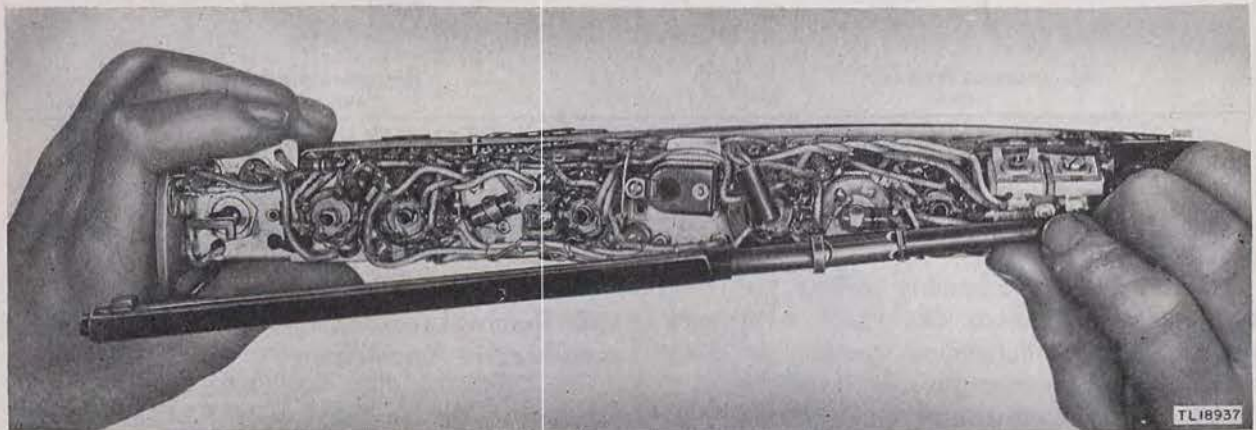

Figure 45. Antenna and antenna guide removal, Radio Receiver and Transmitter BC-611-(\*).
(4) Swing antenna and antenna guide clear of the chassis end plate and remove the antenna and guide together by sliding them through the wiper and support assembly toward the chassis end plate. (See fig. 45.)
(5) Separate antenna and antenna guide carefully.